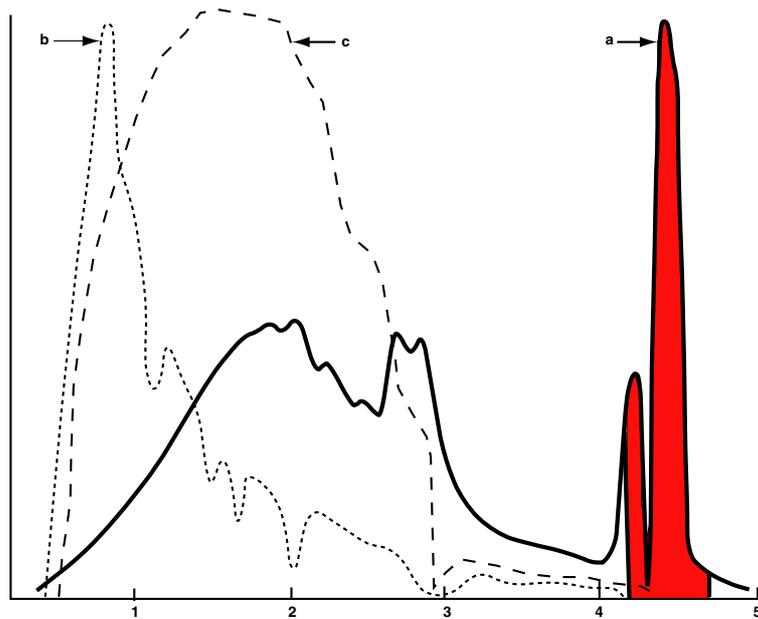

Fig. 1: Spectrums of:
- Fig. 1(a) shows the spectrum of a typical fire of this type
- Fig. 1(b) the spectrum of the radiation of the sun and
- Fig. 1(c) that of a tungsten filament lamp.
In order to exploit these spectral characteristics, the 801F uses an optical filter, which transmits infra-red between 4.38  $\mu\text{m}$  and 4.56  $\mu\text{m}$  (shown shaded in Fig. 1(a)). This bandwidth allows high sensitivity to flames with low sensitivity to other interfering sources.